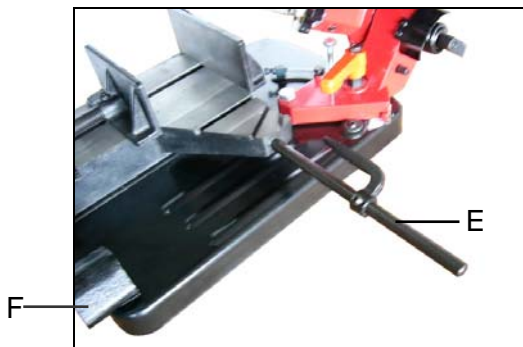

Fig. 4
| 1 | Stop Rod Assembly (E) Fig.4 | 1set |
| 2 | Weight Block (F) Fig.4 | 1 |